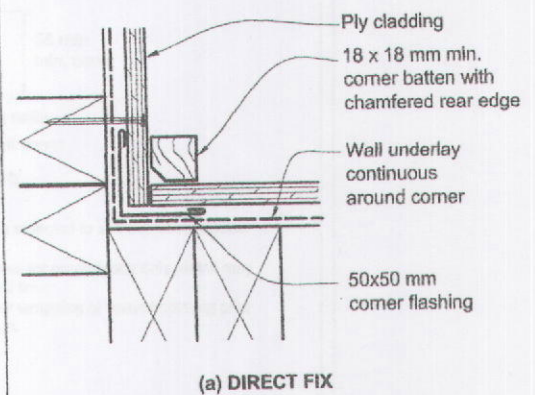

Figure 119: Battened joints for plywood sheet
Batten-jointed panels shall have weather-grooved timber battens as shown in Figure 119.
- c) If vertical, have battened joints – refer to Figure 119.